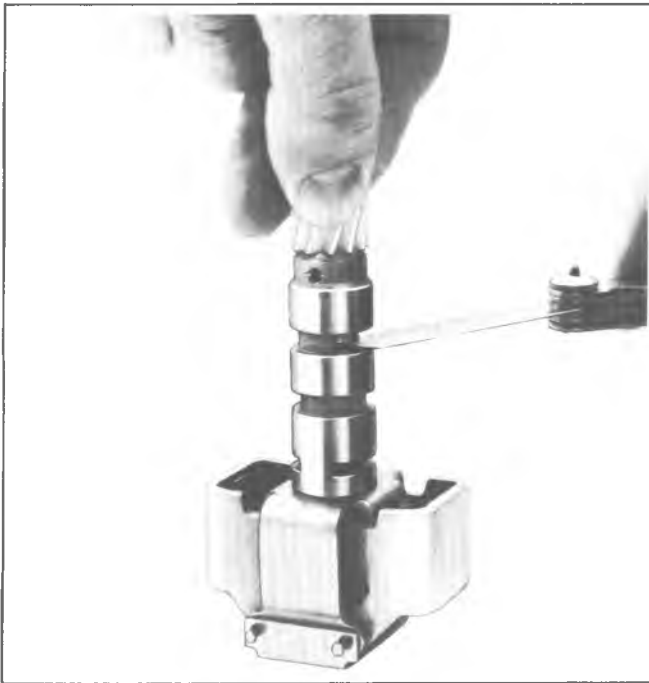

Fig. 7A-58C--Checking Valve Opening With Weights Outward
10. Check valve operating at entry (.020" minimum) with a feeler gage, holding governor as shown with governor weights extended completely outward (Fig. 7A-58C).